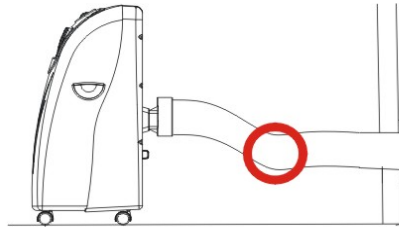

FIG. 8
- Avoid kinks and bends in the exhaust hose as this will cause expelled moist air to build up causing the unit to overheat and shut down. Fig 8 & 9 show correct position